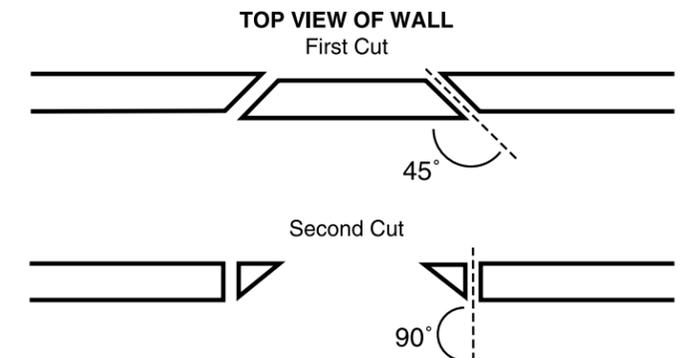

Figure 3
**Caution:** This is the most important part of the entire installation. If you are not certain whether or not an obstruction exists behind the desired mounting area, you should start by cutting a small hole in the center of your penciled mounting hole with a drywall saw. Cut at a 45° angle towards the inside of the hole (See Figure 3). Cutting the small hole at this angle will make drywall repair much easier as the piece cut out can be installed neatly back into the hole. Once you have determined there are no obstructions in your desired mounting location, start cutting the finished hole at a 90° angle to the wall surface.